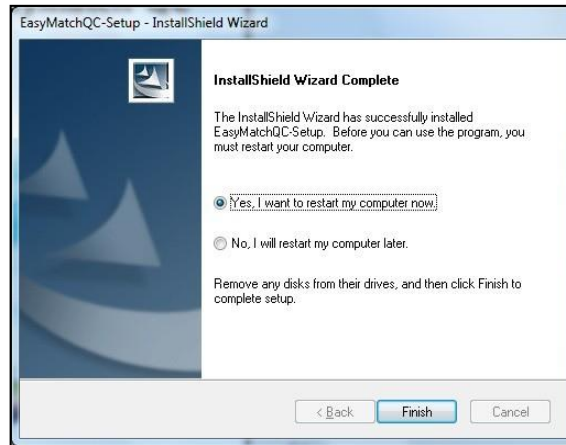

Figure 4. Completed Install
- A warning message to activate the license will be displayed as shown in Figure 4.